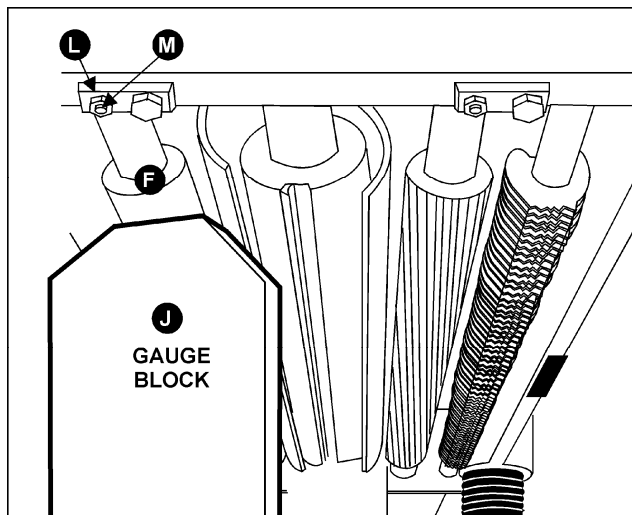

Figure 33
3. Move the gauge block (J, Fig. 33) under one end of the outfeed roller (F, Fig. 33). The bottom of the outfeed roller should just touch the top of the gauge block. If an adjustment to the outfeed roller is necessary, loosen the jam nut (L, Fig. 33) and turn screw (M, Fig. 33) until the outfeed roller just touches the gauge block. Then tighten jam nut (L, Fig. 33).